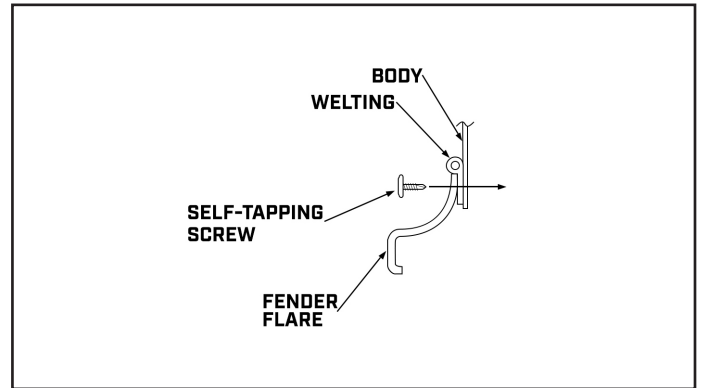

Figure 4
5. Hold the flare up to the body with the welting pinched between the flare and body. (Figure 4) Using the dimples formed in the flares as a guide, drill the self tapping screws through the flare, welting and body to mount the flare. We recommend starting from the center of the flare and working your way out to the edges. Pay attention to ensure the flare is aligned well with the body lines and that the top of the flare is level.